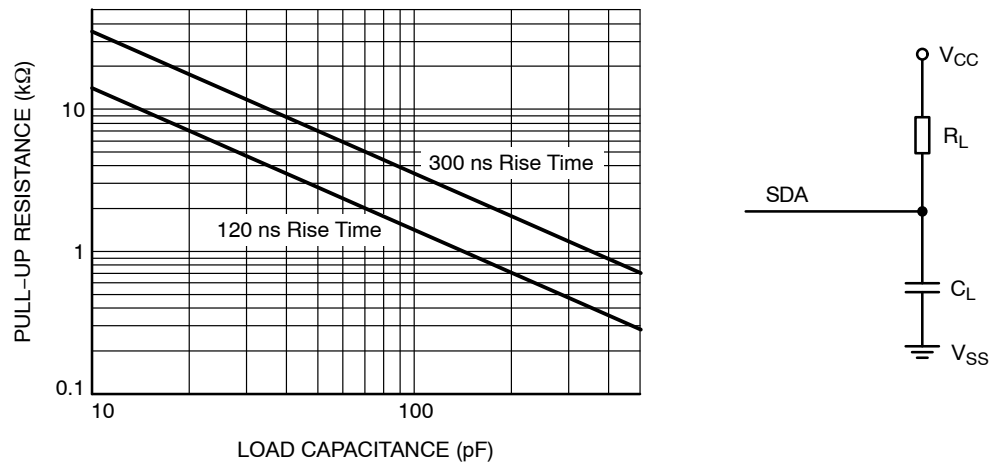

Figure 2. Pull-up Resistance vs. Load Capacitance
- The device is able to handle R_L values corresponding to the specified rise time (see Figure 2).